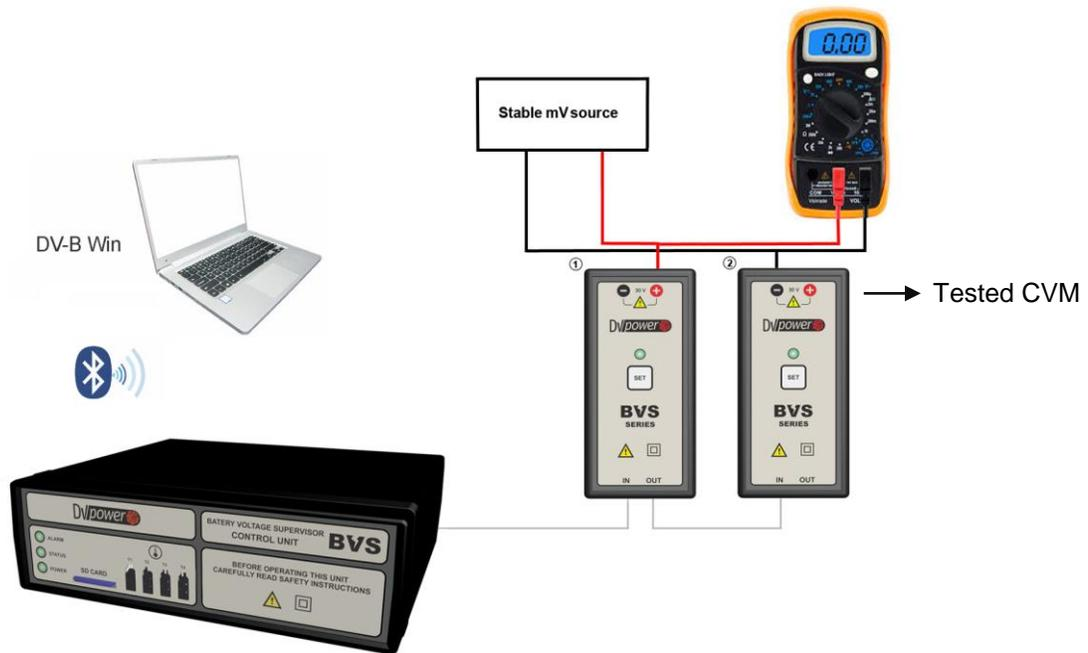

Figure 5-2. Measurement check of CVM mV channel
The procedure for measurement check of the mV channel of CVM is shown in figure 5-2.
1. Connect a stable mV source and a reference voltmeter to modules, as shown in figure 5-2
3. Generate the voltage values from table 5-2, and read mV measurements for the tested CVM (the module set as Nb. 2, on the right in figure 5-2).